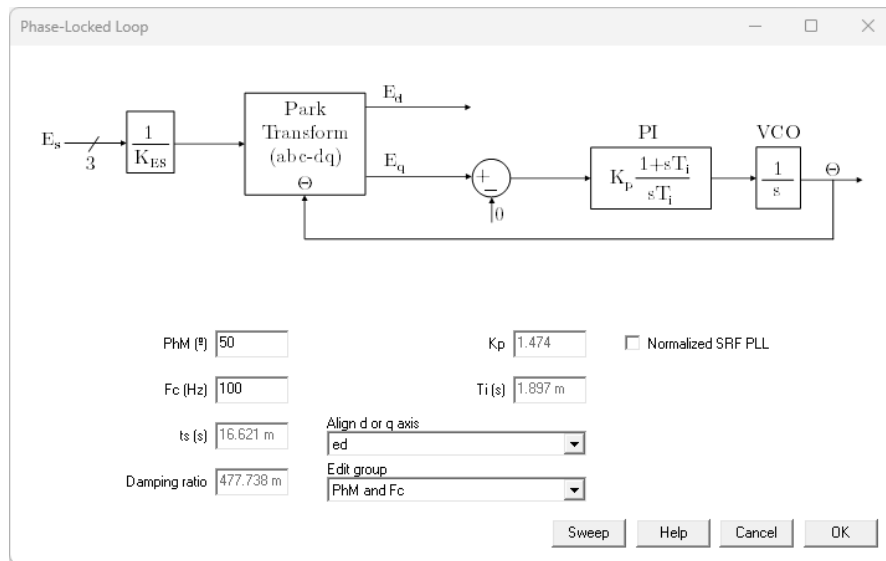

Figure 15: Phase-Locked Loop window
12. To access the phase-locked loop window, click on the button **PLL**. The bandwidth of the control loop can be adjusted by directly entering the value of the crossover frequency and phase margin or by defining the stabilization time, t_s , and the damping ratio or by defining the values of K_p and T_i . See Figure 15.